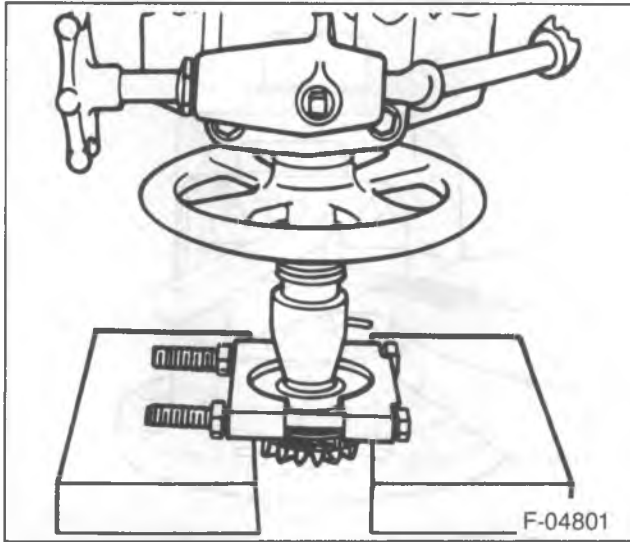

Figure 4—Removing the Thrust Ring
- Measure and record the overall length of the gear assembly from the front of the gear to the back of the thrust sleeve (14) including the side gear washer (13).
1. Guide clips (20).
2. Thrust sleeve (14) using J 22910-01.
- Press the sleeve from the side gear (figure 4).
5. Cam plate (16).
6. Cam side gear (21).